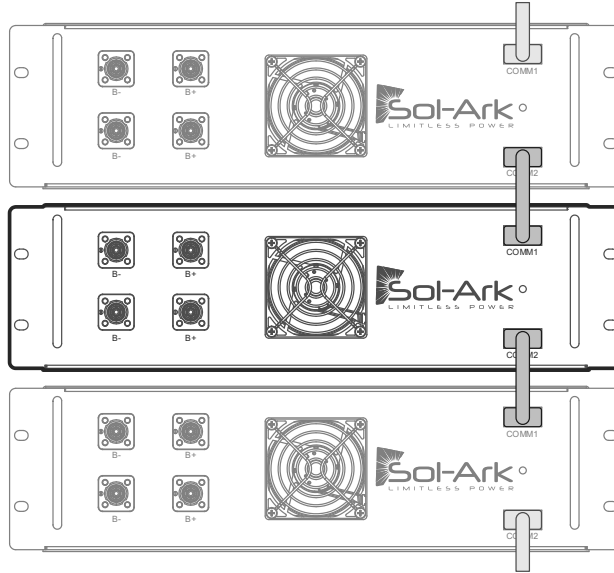

Figure 6 Inter-Module Communication Wiring
- Connect all remaining 110mm (4.3in) communication cables for the rest of the battery modules following as shown in Figure 6.
- A. Begin wiring of the battery by first removing the inner and outer cover, as shown in the **Figure 6**, using a Phillips screwdriver.